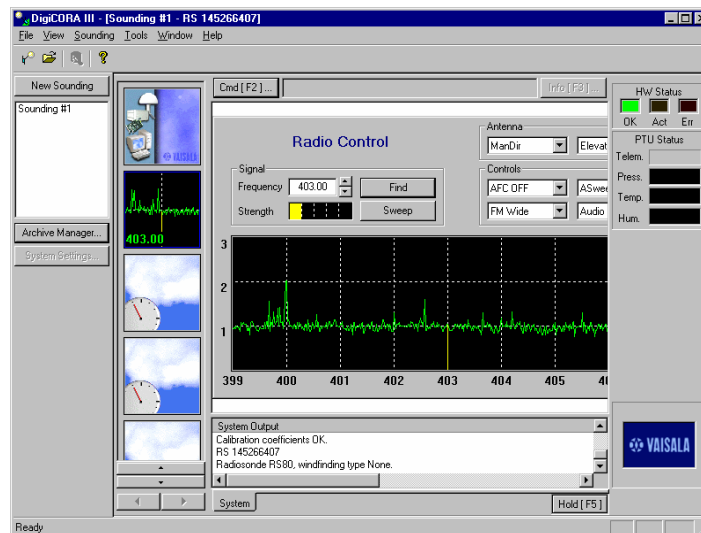

Figure 6
- 6) The RS92 radiosonde will be transmitting at the frequency you selected. Click on the spectrum window and then click on “Find” so that the DigICORA III can receive the signal (Figure 6).